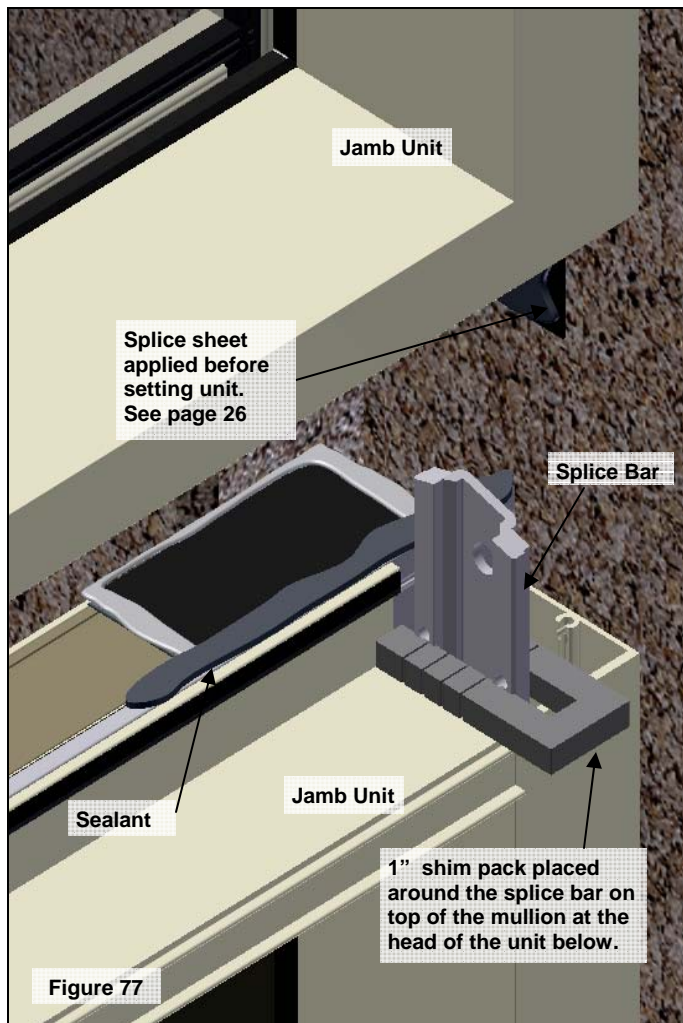

Figure 77
4. When stacking units vertically, place a temporary 1" shim between the units as shown in Figure 77. The shims are used to hold the unit in the nominal installed position.